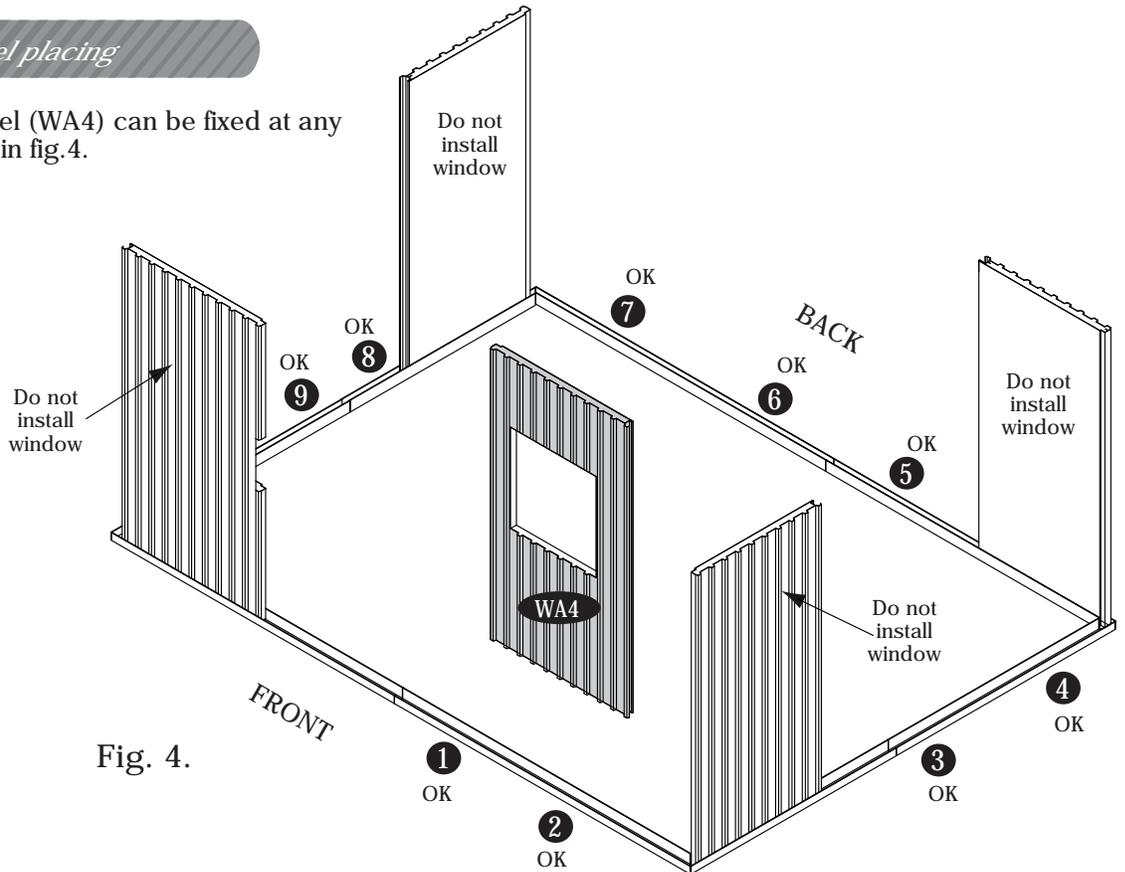

Fig. 4.
4. The window panel (WA4) can be fixed at any position as marked in fig.4.